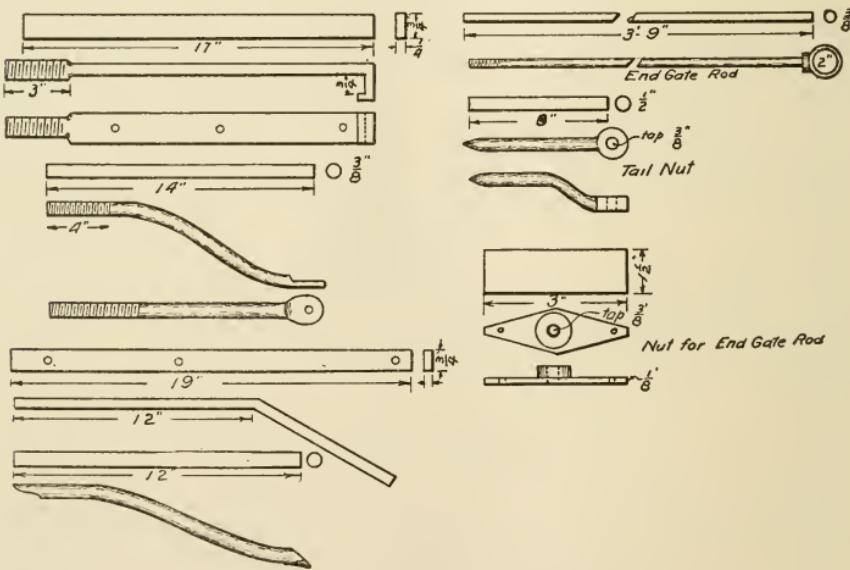

FIG. 216.—IRONS FOR WAGON BOX.
1. Each of the 8 strips used to fasten the crosspieces on to the side boards, is rounded at one end for a distance of $3''$; and is made $\frac{3}{8}''$ in diameter. This rounded end is threaded for a nut and the other end is bent to fit over the top edge of the side boards (Fig. 216).
4. The two brackets for the foot rest are made of $\frac{3}{8}$ " round iron 12" long, bent in the shape shown in Fig. 216, flattened at the ends, and punched for the bolts.